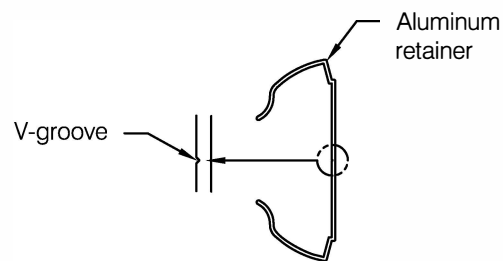

fig 2
Step 3: Pre-drill clearance holes in aluminum retainer along the centerline of the retainer using a #15 (.180") bit for #8 fastener or a #7 (.201") bit for #10 and 3/16" fasteners, see **fig 2**. Space holes at 32" on center. Adjust spacing to accommodate studs as necessary. Do not pre-drill at locations that will interfere with installation of molded accessories.